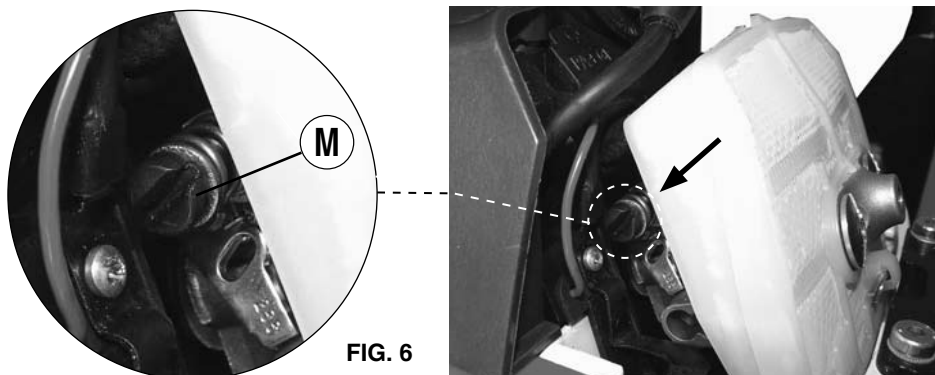

FIG. 6
In case of unstable running at idle speed, allow a short warm-up period then (Ref. to Fig. 6): Remove the filter cover and adjust the screw (M) so the engine runs in a stable condition at minimum revs. (2600 - 2800 rpm).